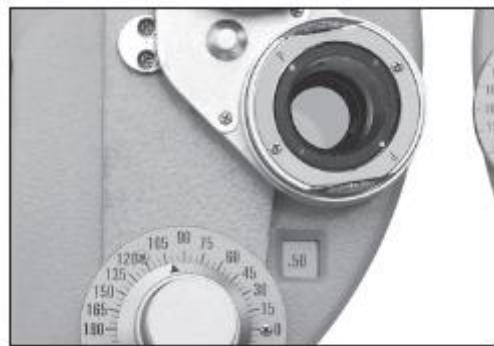

Fig.39
(7) Turn the lens again to make a comparison. If the chart as shown in Fig.39 is the clearest, the diopter power should be decreased by 0.25D because white dot is positioned at P. If the red dot is positioned at P, it means diopter power is increased by 0.25D, thus totally 0.5D is added.
(8) Turn the lens again to verify the finding. If Testee reports that the chart in the setting of Fig.39 is clearest, the correct modified power should be between 0.25D and 0.5D. Hence the accurate power should be -0.62D.